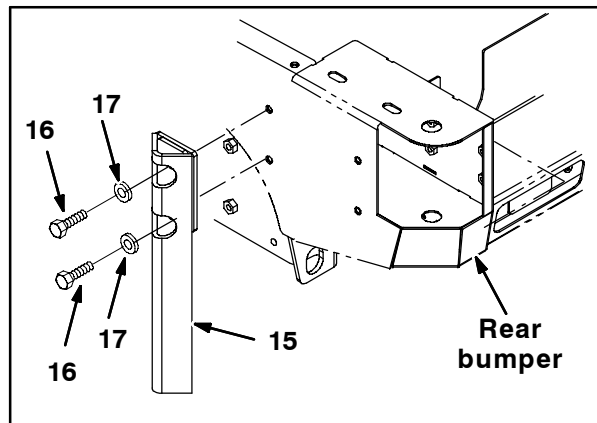

FIG. 1
1. Use two hex screws (16) and two flat washers (17) to mount a squeegee guard (15) onto each side of the machine. Refer to Fig. 1.